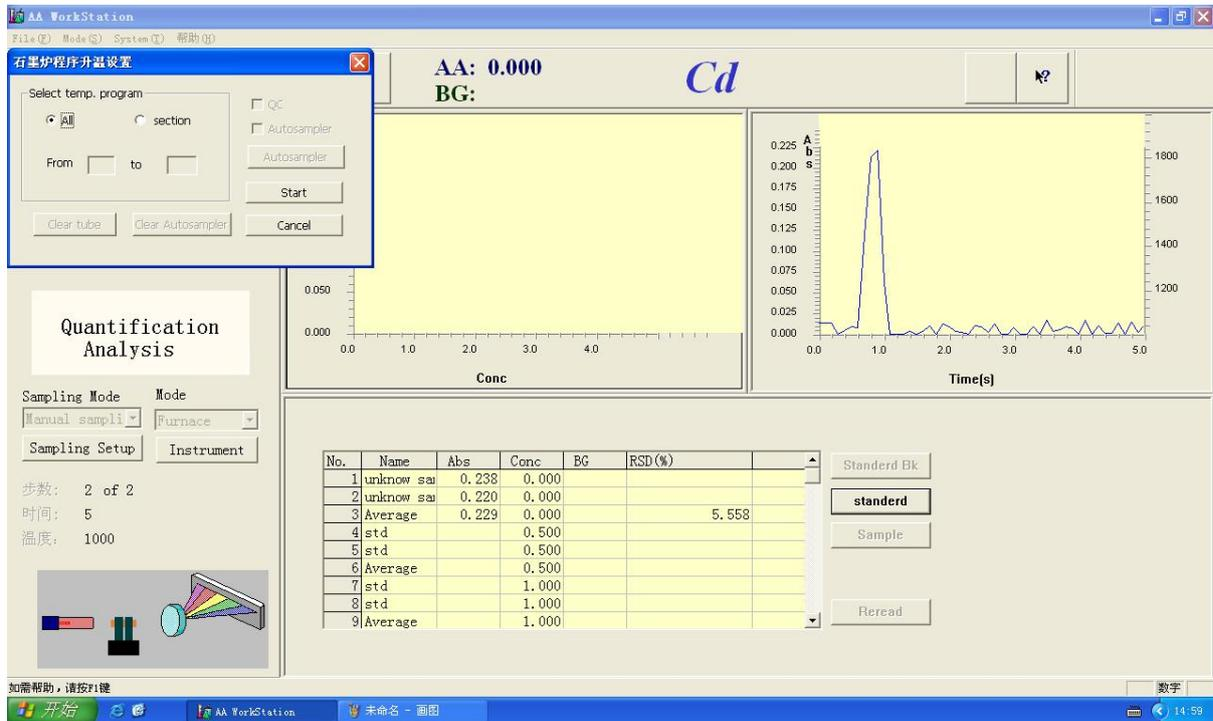

Figure 5-49
15. When a warning tone of "du" sounds sampling unknown sample again, press "Start" to start heating, when a warning tone of "du" sounds Figure 5-49 pops up